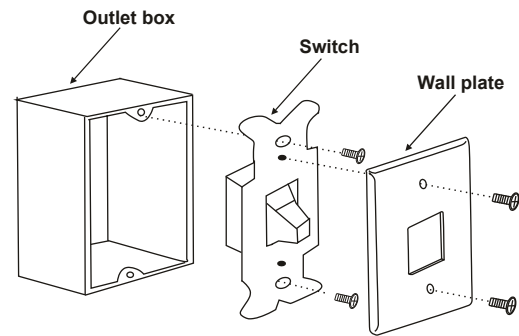

Fig. 1
1. Disconnect the power and remove the existing wall plate and switch. (Fig. 1)